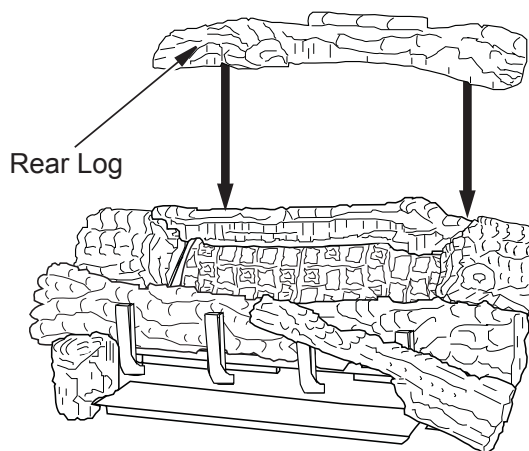

Figure 35 - Installing Rear Log
8. Rest rear log in back corner sections of chassis assembly as shown in **Figure 35**.